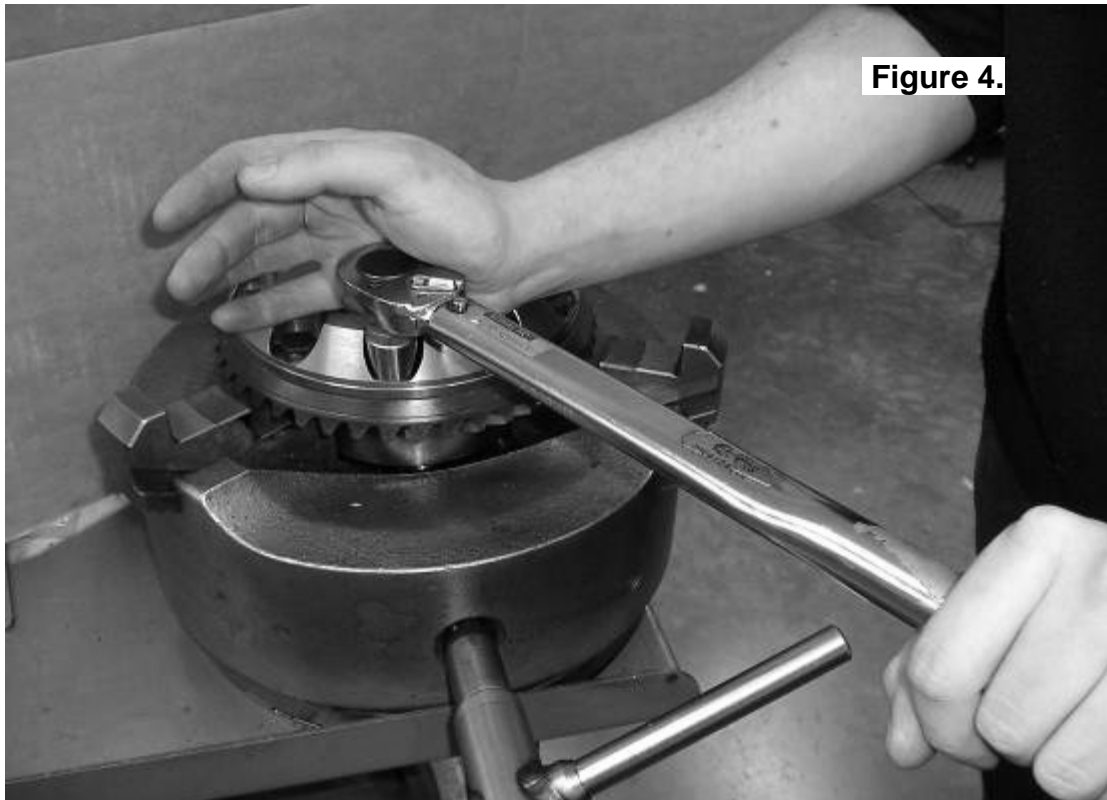

Figure 4.
- ☐ Tighten the ring gear bolts in a star pattern with a torque wrench (Fig.4.) set to your vehicle manufacturer's specified torque.